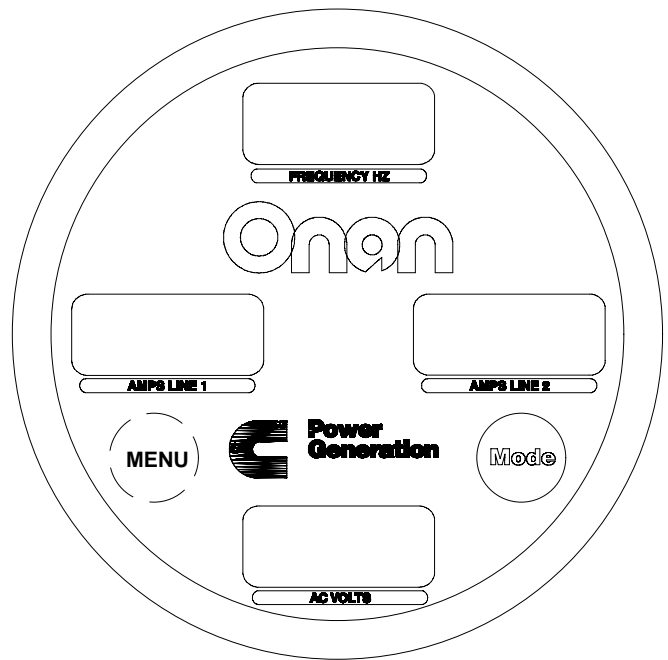

FIGURE 4. DISPLAY MODULE
1. Press the hidden Menu button twice and then the Mode button twice (Figure 4).